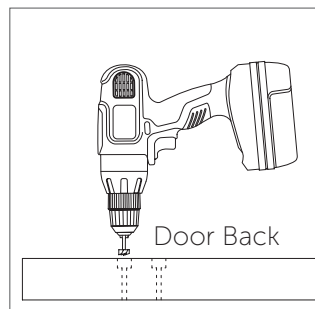

Figure 4
7. Turn the door over and using a 1-1/8" Forstner bit\*, drill a 3/8" deep hole into each pilot hole (Figure 4).
5. Attach one end of the track to the wall with one standard stop, one lag screw, one spacer and one washer, using a socket wrench with 9/16" socket (Figure 4). Do not tighten.